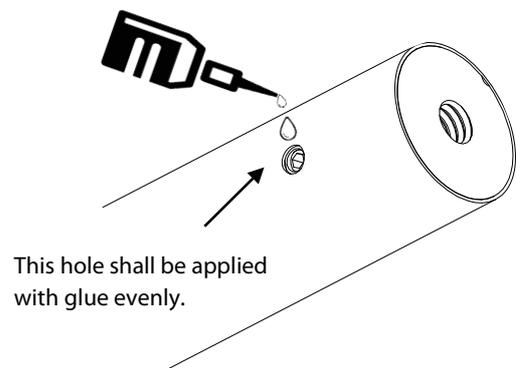

Figure 2-1
- Using the glue and applying in the hole of the arms as well as the one screw, as shown in figure 2-1. (This is to prevent screws from getting loose due to vibration after being used for a long time.)